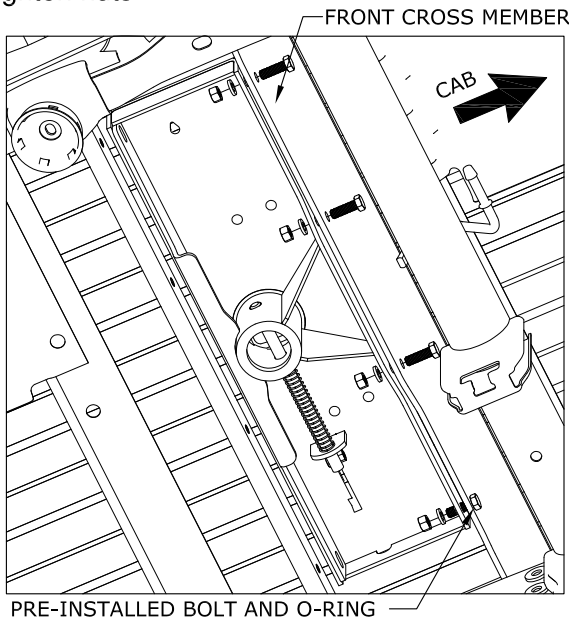

Figure B10: View under the center section looking from in front of the axle on the passenger side.
5. **Attach the front cross member to the center.** Slide the front cross member back against the center section so that the bolt installed previously in the front cross member goes into the center section hole directly across from it. Line up the rest of the holes and attach the two members with  $\frac{1}{2}$  X  $1\frac{1}{2}$ " long bolts, lock washers, and nuts as shown in Figure B10. Hand tighten nuts.